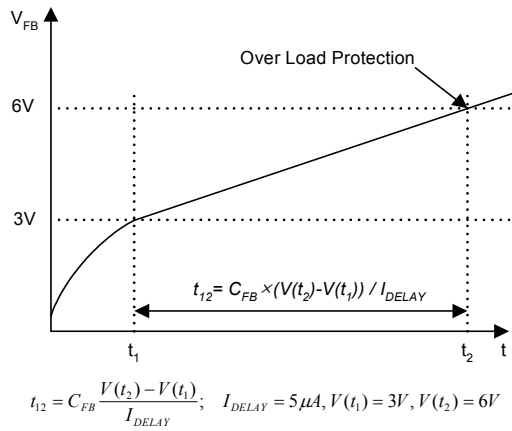

Figure 6. Over Load Protection (OLP)
4.1 Over Load Protection (OLP) : Overload is defined as the load current exceeding a pre-set level due to an unexpected event. In this situation, the protection circuit should be activated in order to protect the SMPS. However, even when the SMPS is operating normally, the over load protection (OLP) circuit can be activated during the load transition. In order to avoid this undesired operation, the OLP circuit is designed to be activated after a specified time to determine whether it is a transient situation or an overload situation. In conjunction with the I_{pk} current limit pin (if used) the current mode feedback path would limit the current in the Sense FET when the maximum PWM duty cycle is attained. If the output consumes more than this maximum power, the output voltage (V_o) decreases below its rating voltage. This reduces the current through the opto-coupler LED, which also reduces the opto-coupler transistor current, thus increasing the feedback voltage (V_{FB}). If V_{FB} exceeds 3V, the feedback input diode is blocked and the 5 μ A current source (I_{DELAY}) starts to charge C_{fb} slowly up to V_{cc} . In this condition, V_{FB} increases until it reaches 6V, when the switching operation is terminated as shown in Figure 6. The shutdown delay time is the time required to charge C_{fb} from 3V to 6V with 5 μ A current source.